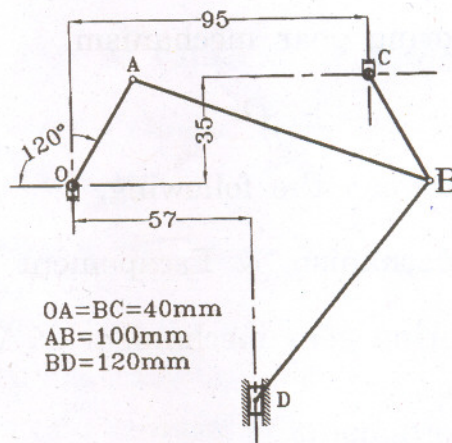

Fig. 3
- (b) Fig. 3 shows a mechanism in which crank OA is rotating anticlockwise at 10 rad/s. At this instant locate all its ICRs and hence using ICR method find out instantaneous linear velocity of slider D as well as angular velocity of link BC. [15]